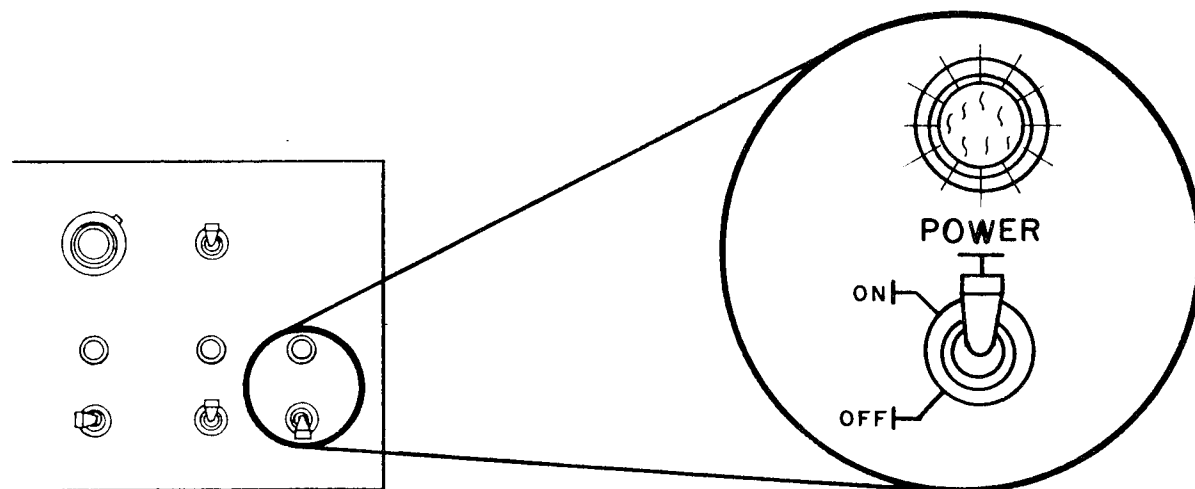

Figure 42. POWER Switch to ON
- f. On the front panel, flip the POWER switch to the ON position (see Figure 42).